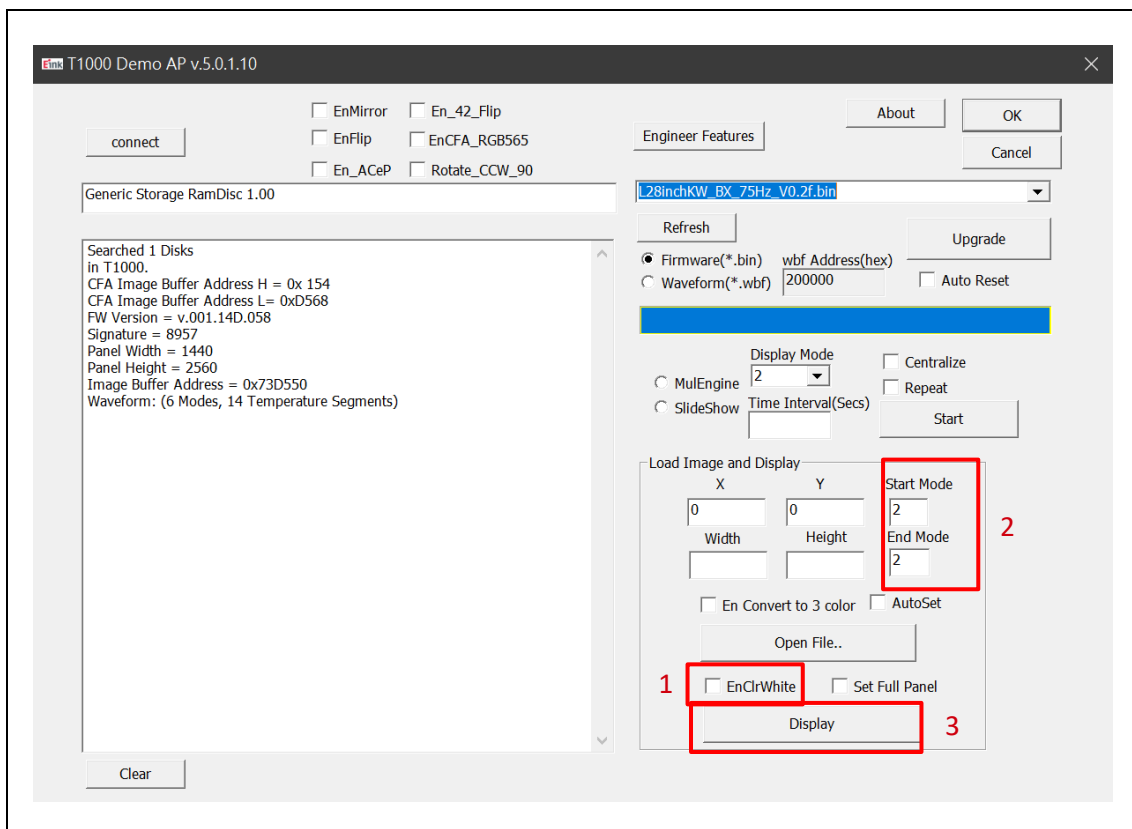

Figure 3.3
- Execute T1000 Demo AP(refer to Fig 3.3)